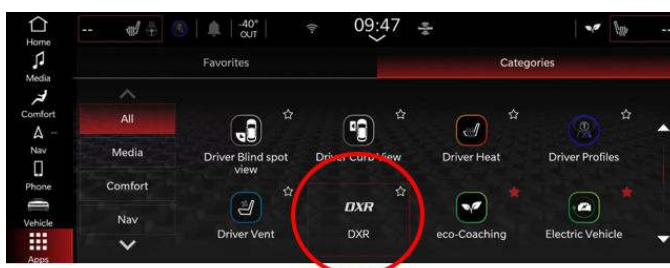

Fig. 10
24. Install a 12v battery charger and insert the USB flash drive into the DXR USB port Fig. 10.